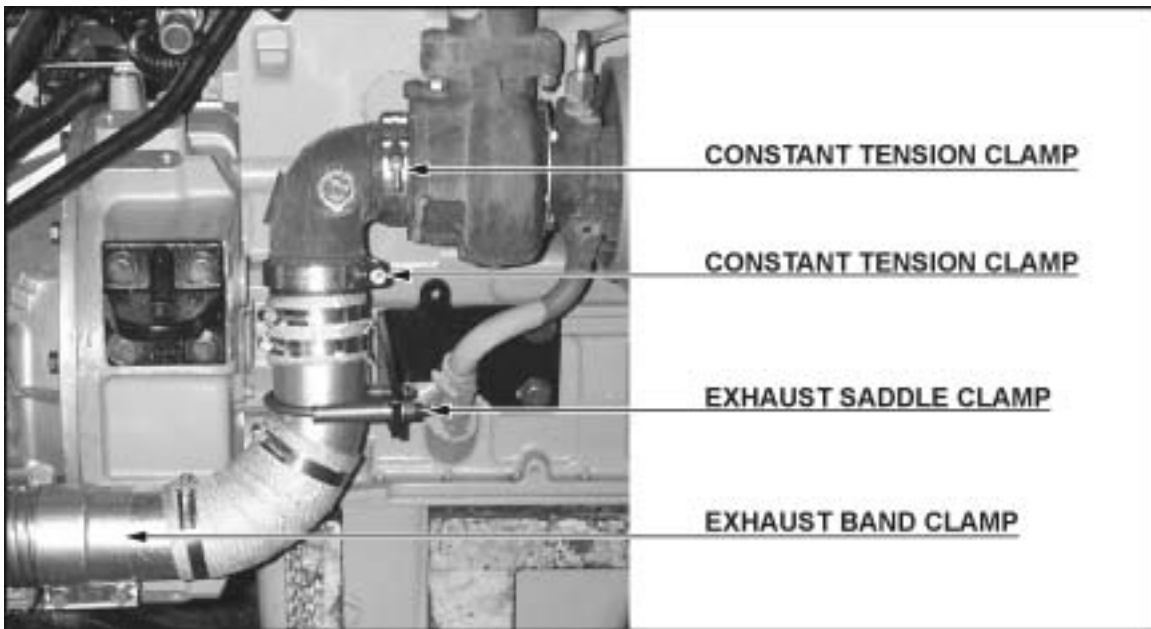

Figure 1A—Turbo Exhaust Detail
6. Loosen and remove the constant tension clamp on the Turbo charge exhaust, at the turbo charger. **Figure 1A.**
7. Loosen the clamps and hangers and remove the exhaust piping at least past the flex pipe. **Figure 1A.**